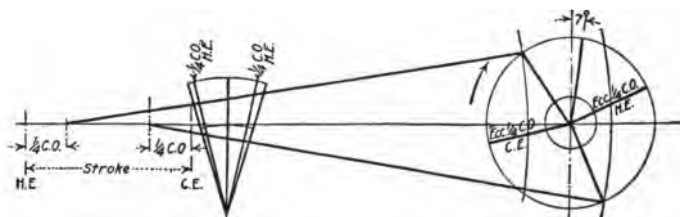

FIG. 180.—Travel of crankpin for $\frac{1}{4}$ cutoff.
- Fig. 180 the arcs are shown for one-quarter cut-off. The difference in travel should be compensated in the valve gear and setting of the governor-cams. Using the ordinary rocker arm of a single-eccentric engine and an angu-